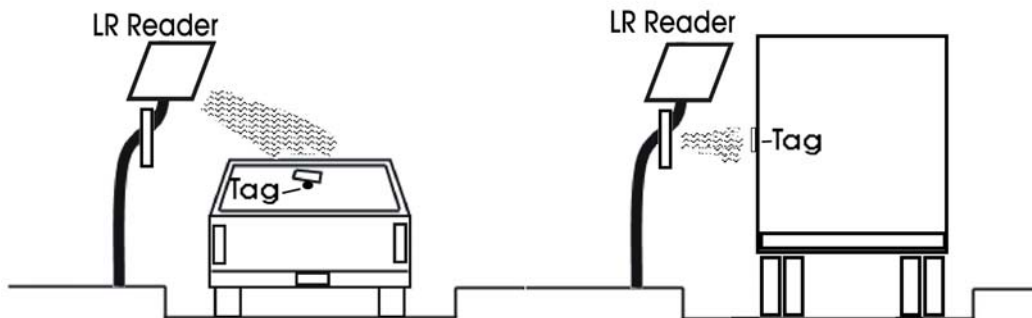

Figure 6. Mixed passenger vehicles and large trucks -- using LR-2000HiLoMA.
1. Mount the reader so that it faces the MT tag at the "sweet spot" reading location. See Figure 6 for an example at the left side.